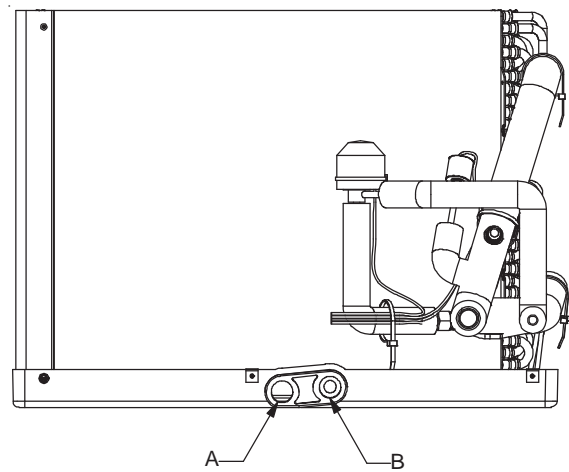

Figure 12
Condensate drain connections are located in the drain pan at the bottom of the coil/enclosure assembly see Figure 12. Use the female ($\frac{3}{4}$ " FPT) threaded fitting that protrudes outside of the enclosure for external connections. The connectors required are ($\frac{3}{4}$ " NPT) male, either PVC or metal pipe and must be hand tightened to a torque of no more than 37 in-lbs, to prevent damage to the drain pan connection. An insertion depth between .36 to .49 inches (3-5 turns) should be expected at this torque.
Drain port labeled (A) in Figure 12 is the primary drain and condensate drain line must be attached to this drain port.